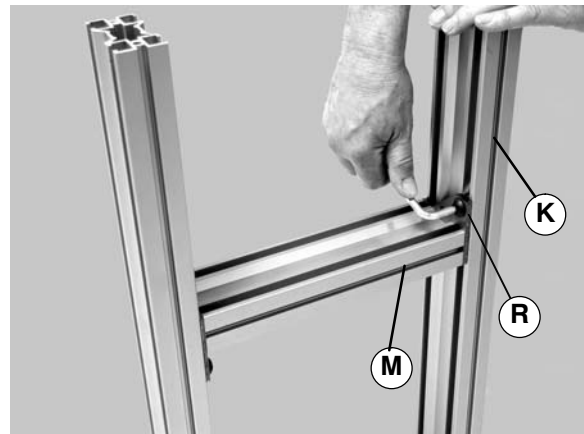

Figure 6
WARNING Failure to secure screws (R of Figure 6) may cause conveyor sections to drop down causing severe injury. TIGHTEN SCREWS (R) AFTER ADJUSTMENT.
6. Upright stand and locate and space crossmember(s) (M of Figure 6) evenly along stand leg (K). Tighten crossmember button screws (R) to 150 in-lb (17 N-m).